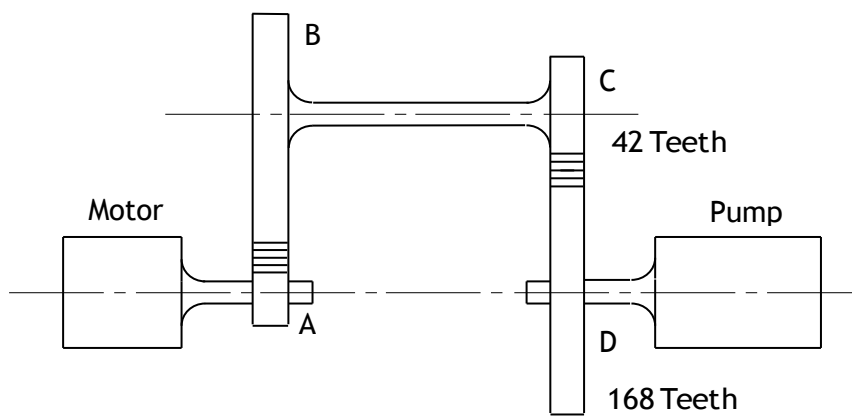

Fig Q6
6. An electric motor drives a pump through the compound gear train as shown in Fig Q6. The power required by the pump is 70 kW at a speed of 125 rev/min. The velocity ratio of the entire gear system is 24. The transmission efficiency is 90 per cent and the pitch of the teeth is the same for all gear wheels.